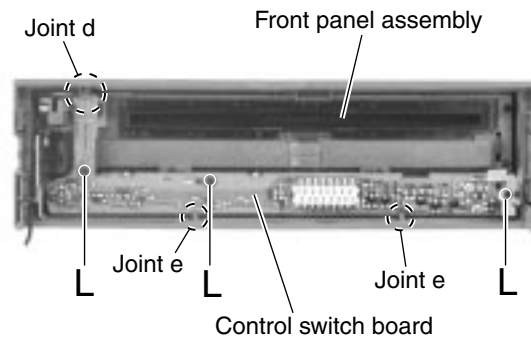

Fig.18
■ Removing the control switch board (See Fig.18)